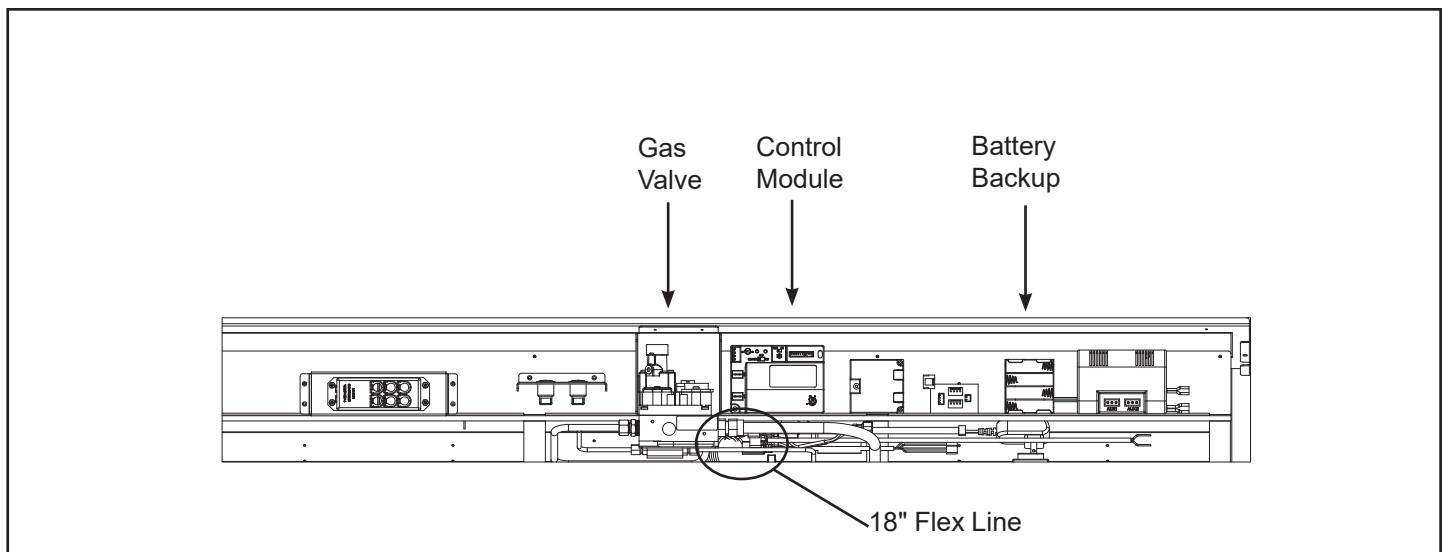

Figure 5.7 Gas Fitting Access
- Refer to Figure 5.7 for location of gas flex line access in appliance.